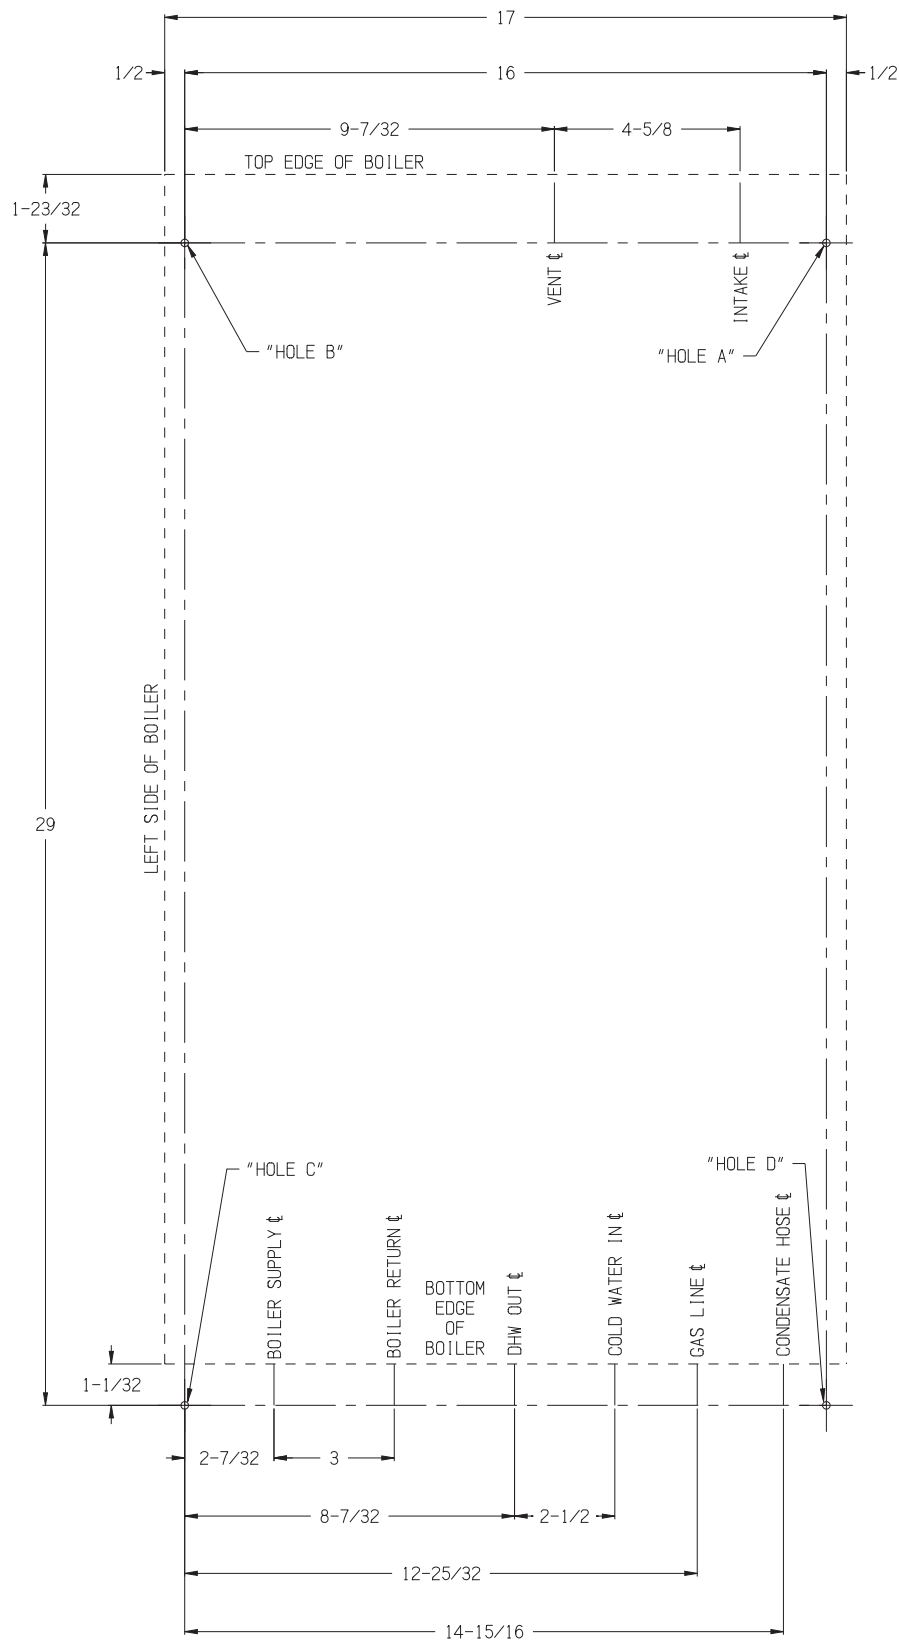

Figure 5.1 Wall Layout/Mounting Hole Location
5. Once a suitable location has been selected for the boiler, and any needed modifications have been made to the wall, use Figure 5.1 to locate holes "A" and "B". Make sure that the horizontal center line of these holes is level. Holes "C" and "D" may also be drilled at this time or after the boiler is hung on the wall. If the 5/16" x 2" lag screws are used, drill 3/16" pilot holes.